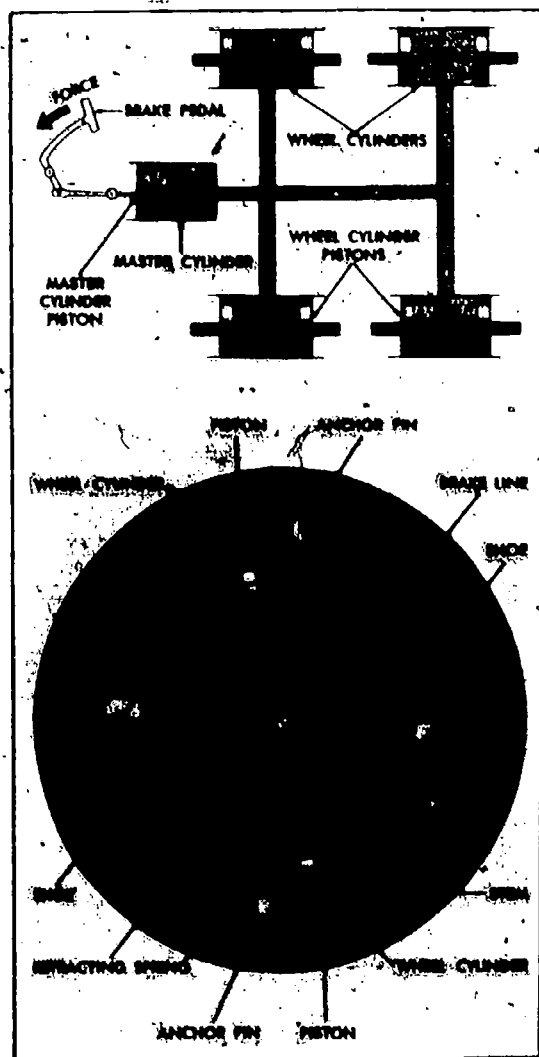

Fig 3-11. Hydraulic brake system.
2. Hydraulic-actuated (fig 3-11). This is the most used method for controlling passenger vehicle brakes. Through mechanical levers or pedals and linkage, pressure is applied on a hydraulic fluid that is transmitted through lines to the brake control cylinder. Pressure on the fluid causes the cylinder piston to move and a mechanical link transmits the movement to the brake. On an internal-expanding brake, the piston moves out, causing the brake lining to contact the rotating member.